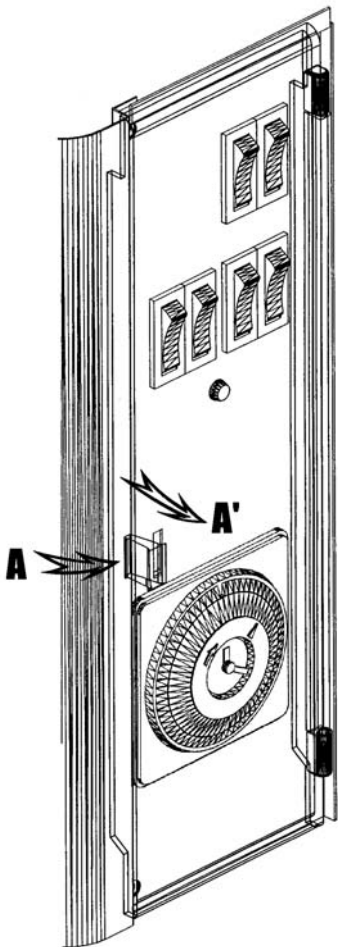

Figure 3
3. To access to switches and timer, open the switch panel cover by pushing on the side (arrow **A**) and pulling (arrow **A'**) (Fig. 3).